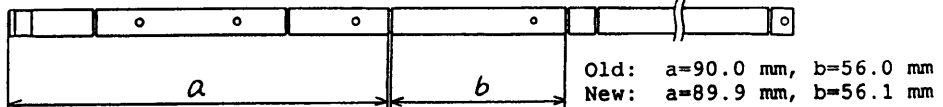

Fig. 2: Paper pick-up roller shaft
2. The position of the groove for an E-ring in the paper pick-up roller shaft has been changed (figure 2).